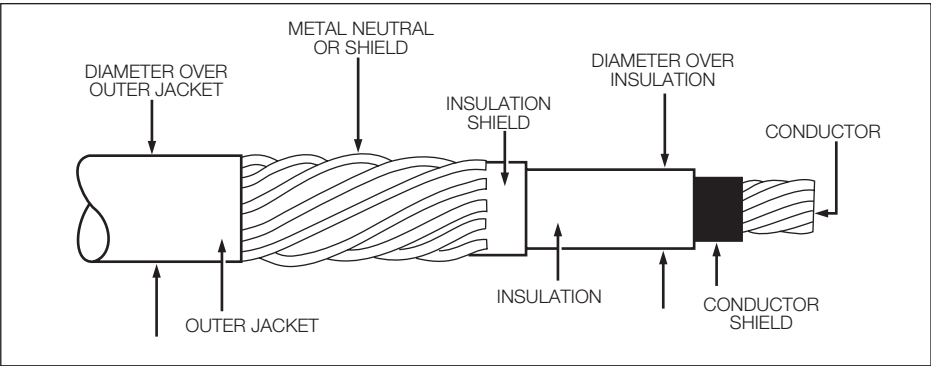

Figure 4.
**STEP 1:** Determine the cable's diameter over the electrical insulation as shown in Figure 4 (including tolerances) from cable manufacturer. Then identify a cable range from Table 3 that brackets the minimum and maximum insulation diameters. Select the CABLE RANGE CODE from the far right column.